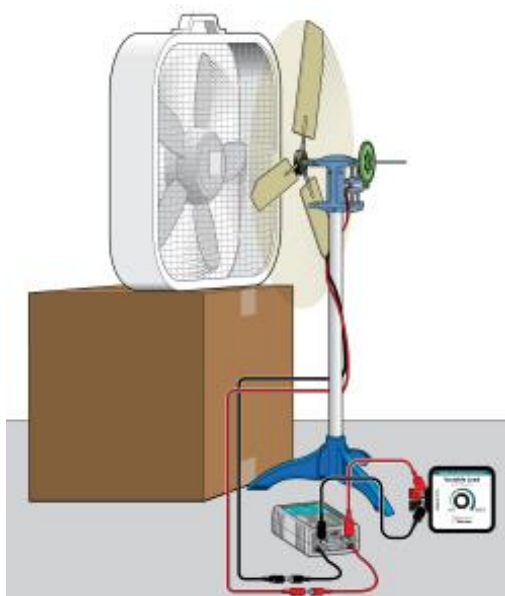

Figure 1
- d. Position the equipment as shown in Figure 1. Align the center of the fan with the center of the wind turbine hub. Measure the distance between the fan and the turbine hub and ensure that the distance remains constant throughout the experiment.